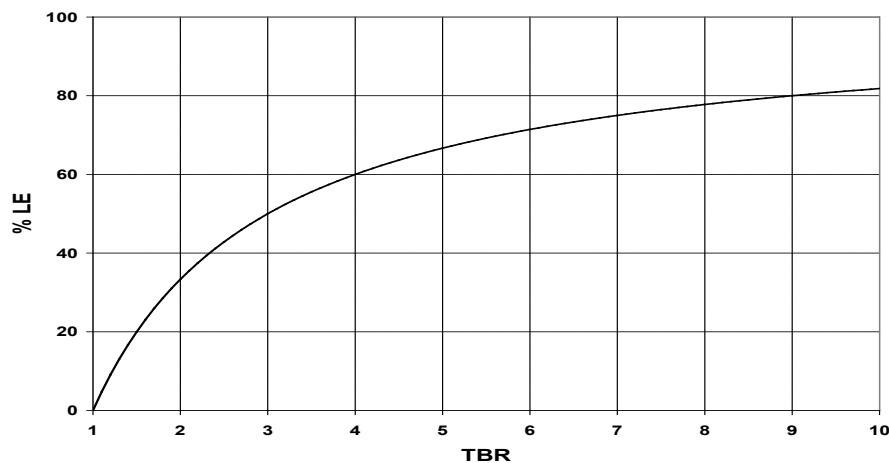

Figure 2 - Plot of locking effect versus torque bias ratio
Locking effect (LE) is an alternate means of expressing torque imbalance supported by the differential. It is the relationship between torque difference and input (total) torque. It is useful when defining the performance of a torque split differential (ratio across outputs other than 1:-1). The relationship between locking effect and bias ratio is shown in Figure 2.